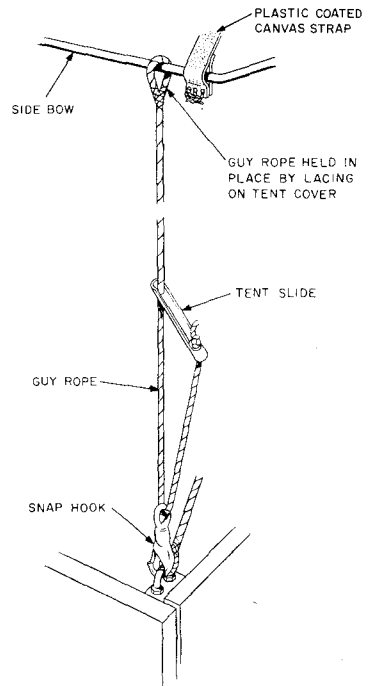

Fig. 5 — Guy Rope Showing Tent Slide and Snap Hook
2.07 Attached to each of the side bows are two guy ropes for use in anchoring the tent. Each guy rope is equipped with a tent slide (tensioning device) and a snap hook to facilitate the placing and removal of the tent. The tent slide and snap hook are illustrated in Fig. 5.